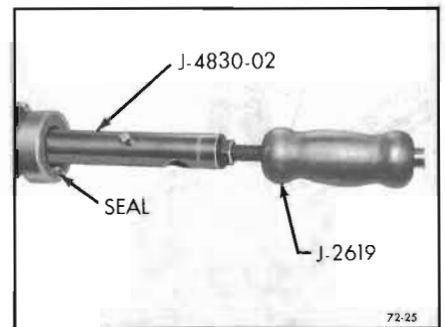

Figure 72-25—Removing Rear Bearing Retainer Oil Seal
1. Using J-2619, Slide Hammer and J-4830-02 Puller, remove rear bearing retainer oil seal. See Figure 72-25.